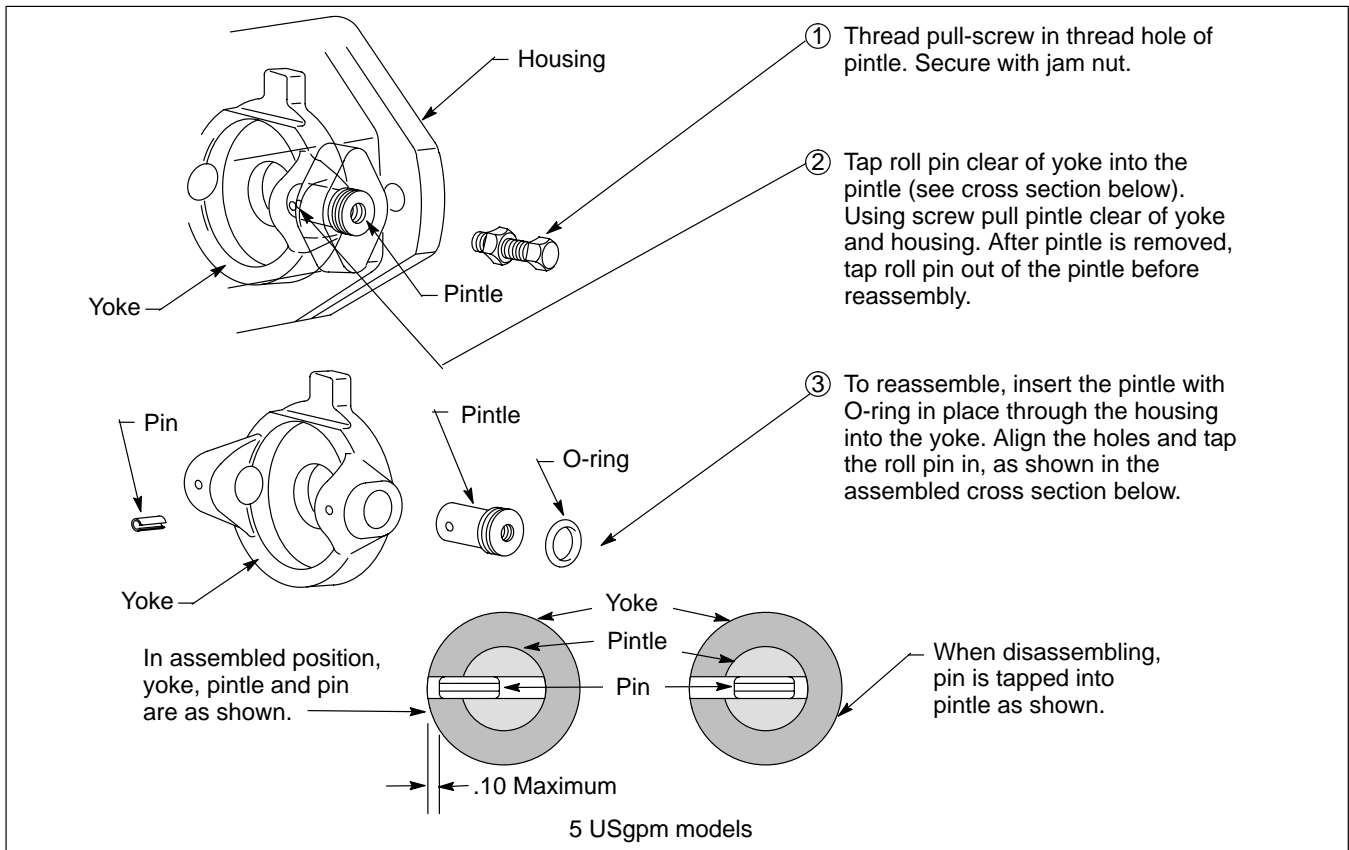

Figure 10.
**6. Yoke Removal** – Figures 10 and 11 illustrate the procedure for removal of the yoke from a variable displacement unit. Yokes of the smaller units are similar in design to the larger units. Only the methods of retaining are different.
1. **Yoke** – Install the yoke in the housing as illustrated in Figures 10 and 11.